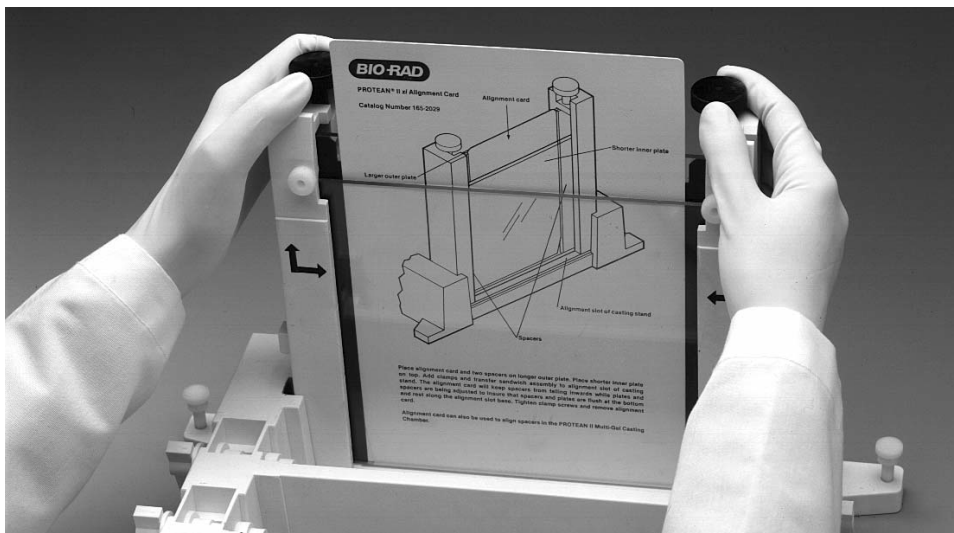

Fig. 4.12. Aligning spacers in the sandwich assembly.
5. Place the sandwich assembly in the alignment slot (the slot without cams) of the casting stand with the short glass plate forward (Figure 4.12). Loosen the sandwich clamps and insert an alignment card to keep the spacers parallel to the clamps.
6. Align the plates and spacers by simultaneously pushing inward on both clamps at the locating arrows while at the same time pushing down on the spacers with your thumbs; tighten both clamps just enough to hold the sandwich in place. Pushing inward on both clamps at the locating arrows will insure that the spacers and glass plates are flush against the sides of the clamps (Figure 4.12).